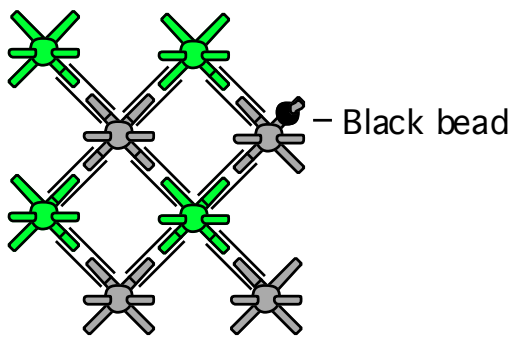

Fig. 1 Layer 1 of model.
1. Connect green chloride ions to silver cesium ions to form a flat layer with eight ions total. Place a black bead on a cesium ion as shown (this is done to make the identification of layer 1 easier). (Fig. 1)